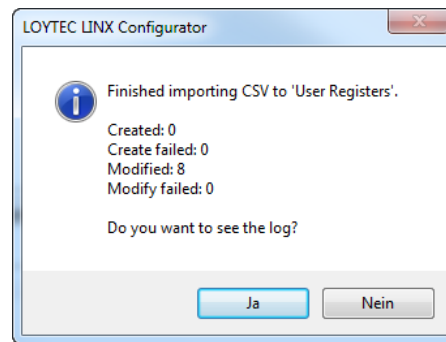

Figure 73: Report on an imported data point CSV.
3. Choose a CSV file to be imported. The Configurator opens that file and applies the properties to the existing data points. When finished a report is shown as depicted in Figure 73.